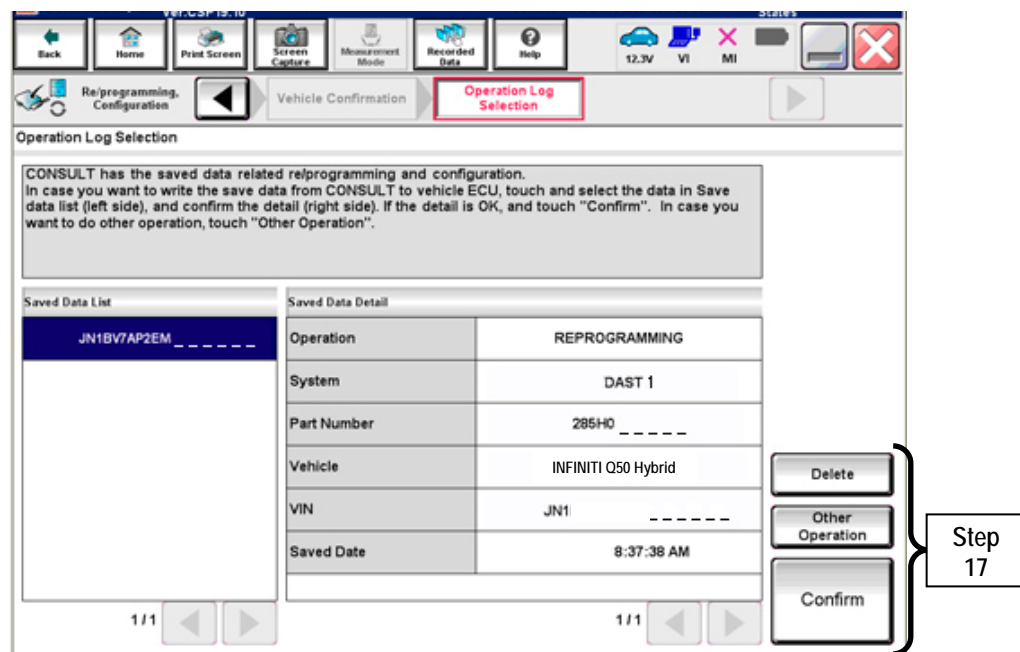

Figure 12
17. If the screen in Figure 12 appears, first select **Delete**, then **Confirm**, and then **Other Operation**.